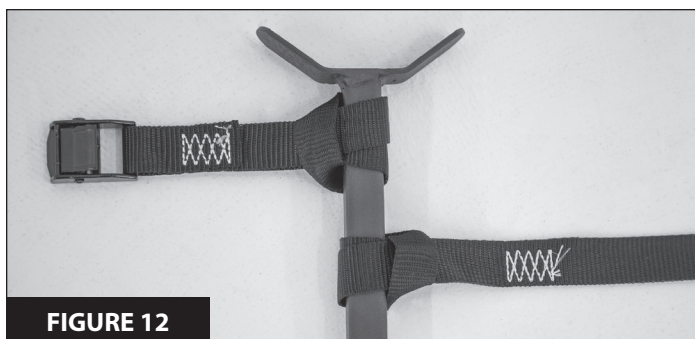

FIGURE 12
4. While two people hold the stand in place, the third person should connect the horizontal stabilizer bar to the tree. Adjust the length of the stabilizer bar as need so it contacts the tree and is level to the ground. Then secure it to the tree with the 6' cam strap (31) by forming a cinch knot with both ends of the strap and running the long end of the strap through the cam buckle. **SEE FIGURES 12 AND 13.**